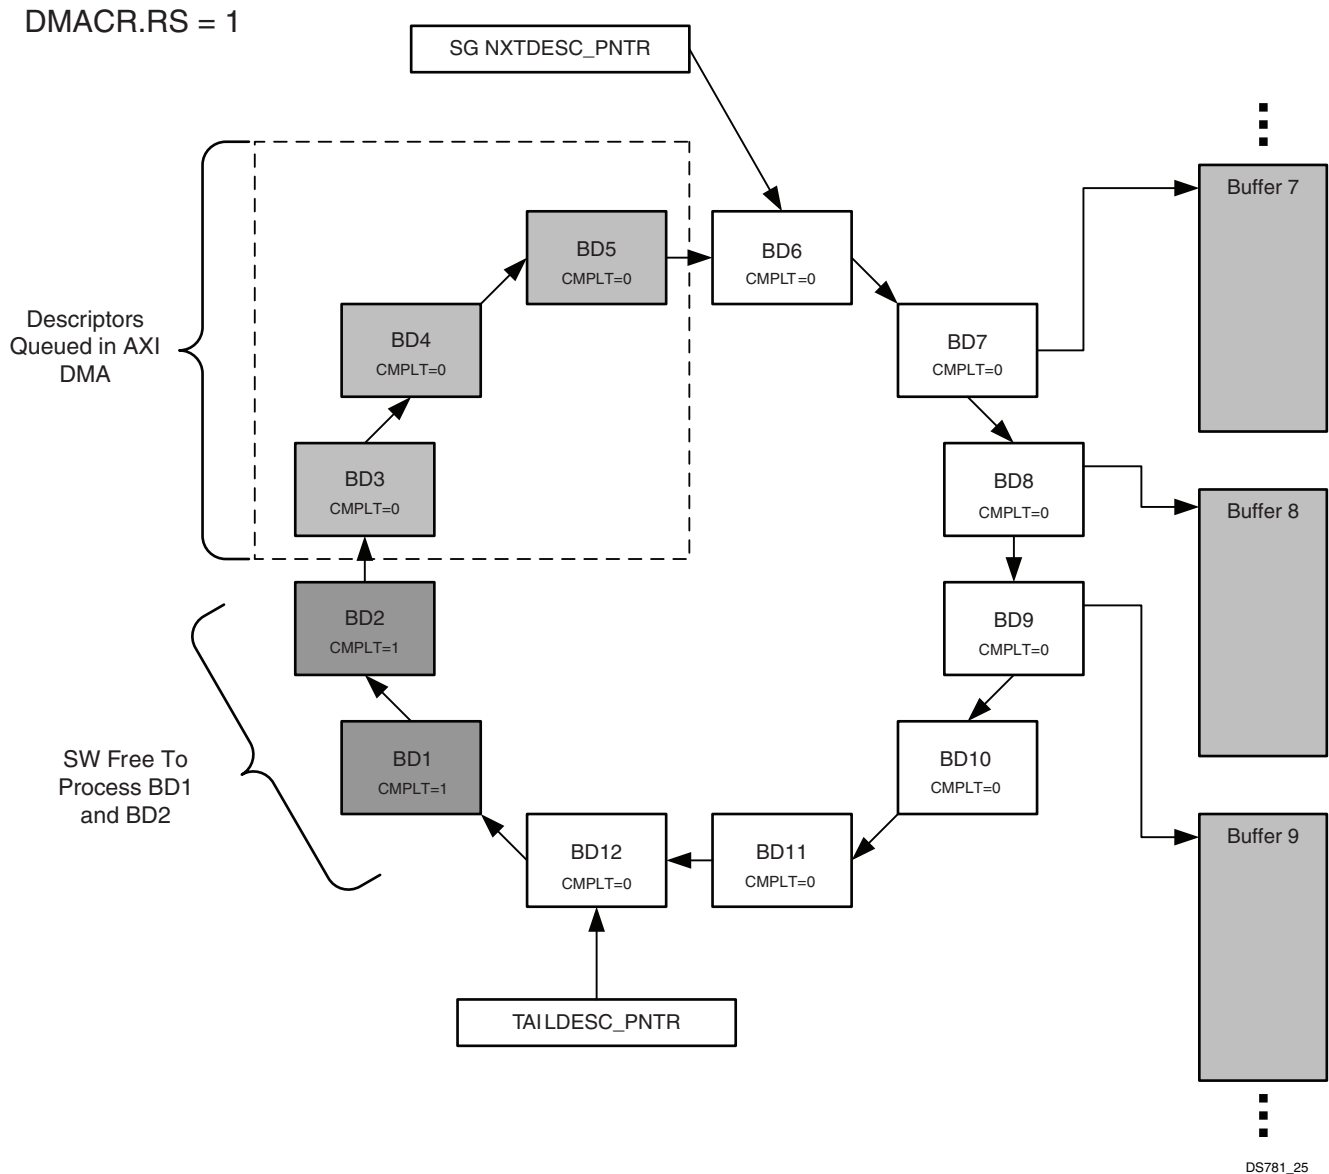

Figure 4-14: Continued Execution
3. Continued execution (DMACR.RS=1), as shown in Figure 4-14.